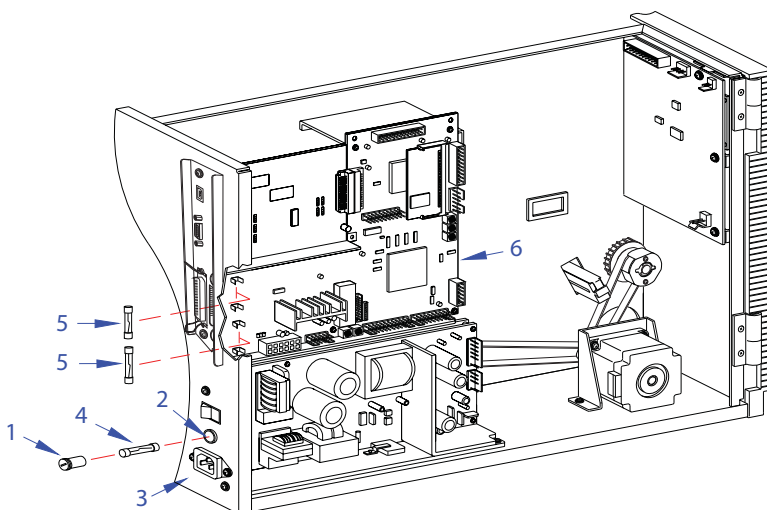

Figure 7-15, Fuse Replacement
- 2 Unscrew fuse cap (1, Figure 7-15) from fuse cylinder (2) located on rear housing cover (3).
- 3 Withdraw damaged fuse (4) from fuse cap (1).
- 4 Insert replacement fuse (4) into fuse cylinder (2) and screw on cap (1).